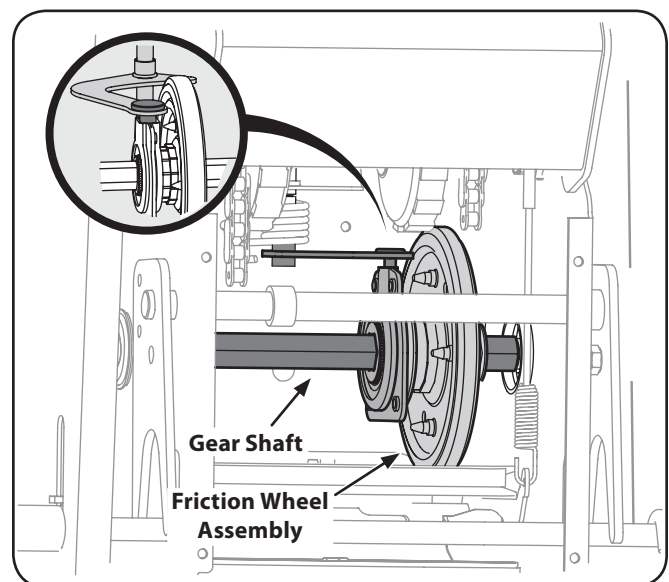

Figure 7-9
5. Move the gear shaft to the right and slide the friction wheel assembly from the shaft. See Fig. 7-9.
NOTE: Make sure the shift lever pin is in place in the bearing housing. See Fig. 7-9 inset.
10. Position the friction wheel assembly up onto the pin of the shift rod assembly, and slide the shaft through the assembly. See Fig. 7-9. Reassemble in reverse order.